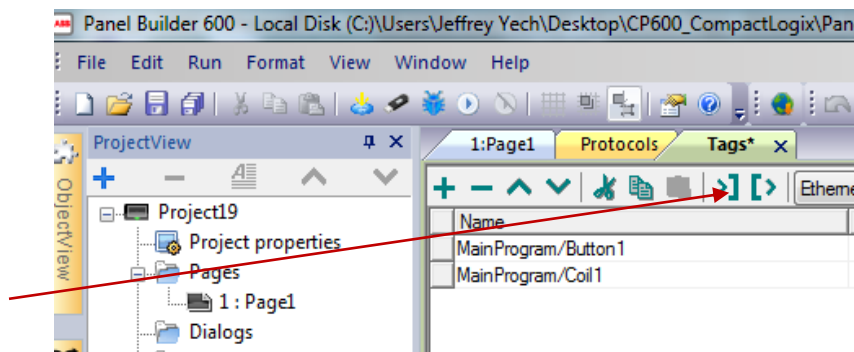

Figure 5- import the Rslogix 5000 tags
- 4.8. Click the import icon  in the Tags tab to import the RSLogix 500 controller tag file, as shown in figure 5.